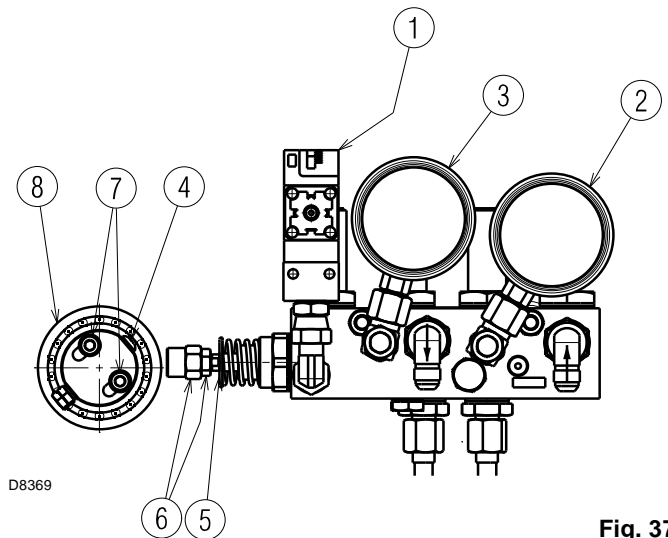

Fig. 37
- D Oil cam:** change eccentricity by turning the screw 4) (Fig. 37) after loosening the screws 7) (Fig. 37).
By tightening the screw 4) (Fig. 37) eccentricity increases, in this way the difference increases between maximum and minimum return pressure to the nozzle.
Key to layout (Fig. 37)
- Adjust the return pressure to a minimum of approx. 6 bar. To do this, the length of the shaft 5) (Fig. 37) must be adjusted, by turning the nut 6) (Fig. 37).
We recommend sufficient setting so as not to create a smoky flame and to reach maximum output as soon as possible (maximum run for the servomotor 130°): set the return pressure on the eccentric (screw 4, Fig. 37) to obtain the output required by the nozzle and then continue with setting the intermediate levels.